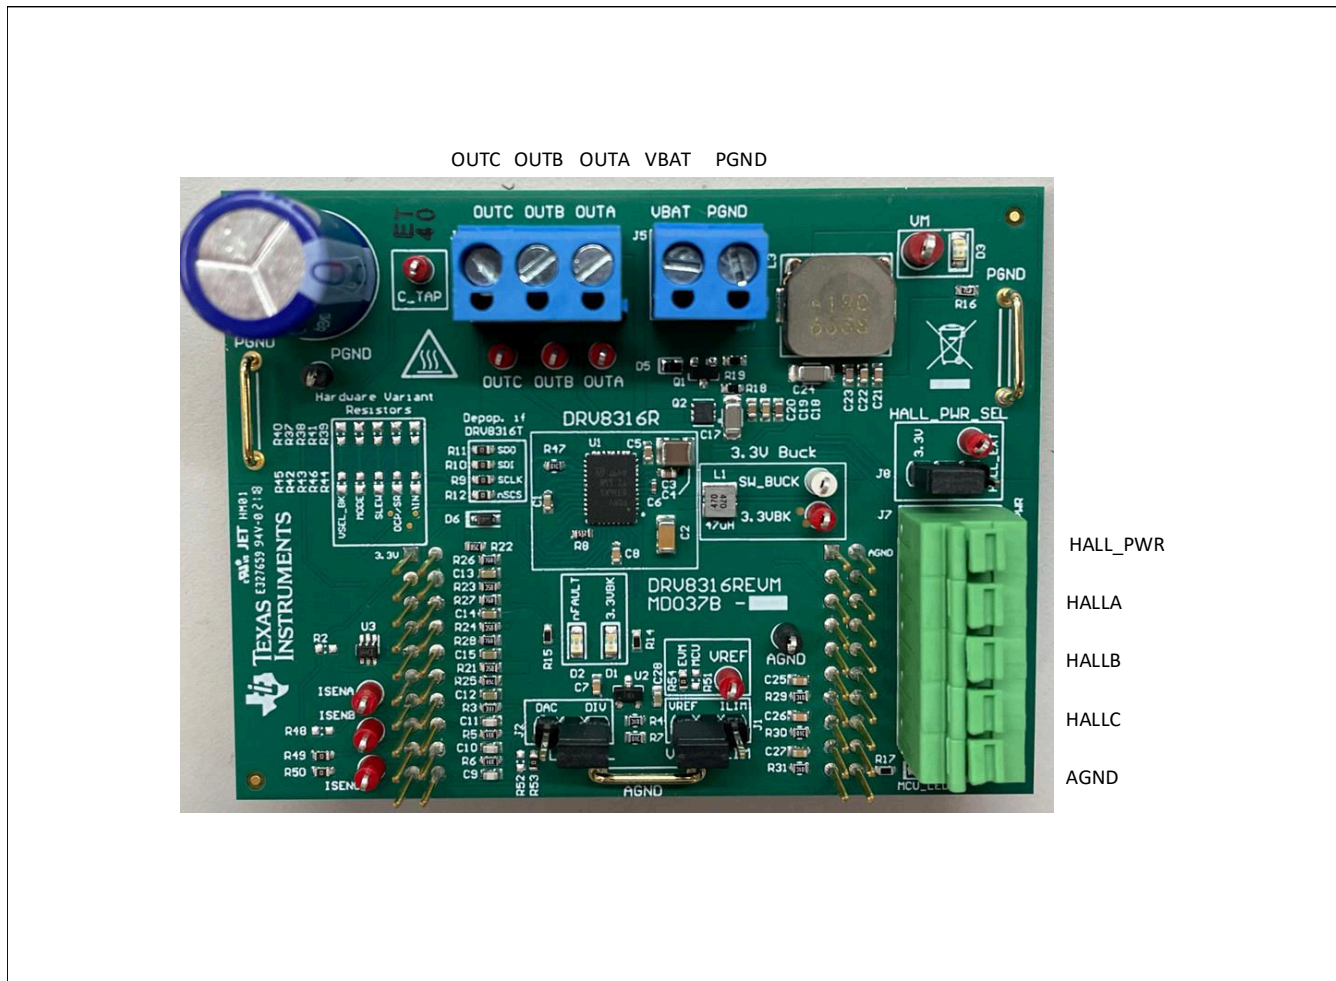

Figure 4-6. Connections From Motor to DRV8316xEVM
2. Connect the motor phases to OUTA, OUTB, and OUTC. If using the Hall sensors, connect them to five-pin connector J7 as Figure 4-6 shows. Select 3.3 V or HALL_EXT_PWR on jumper J8 to select Hall power source.
Figure 4-6 shows the connections made to the DRV8316xEVM to spin a three-phase sensed Brushless-DC motor.